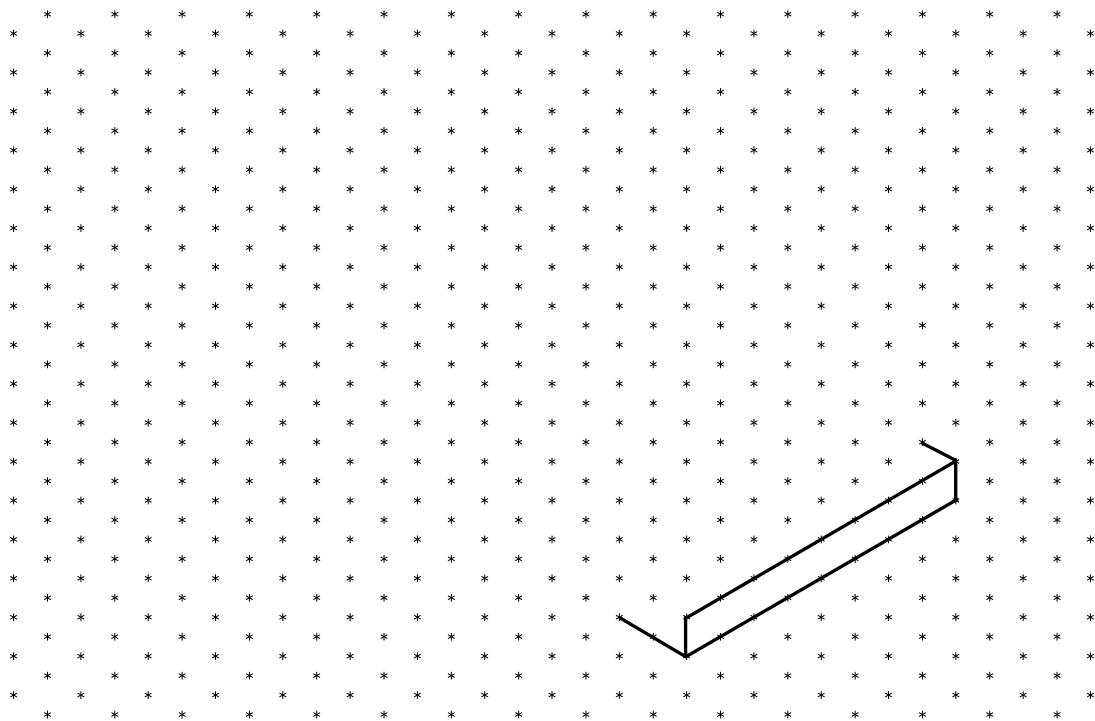

Fig. 3
- (a) Complete the isometric sketch of the point of sale display on the grid in Fig. 3.